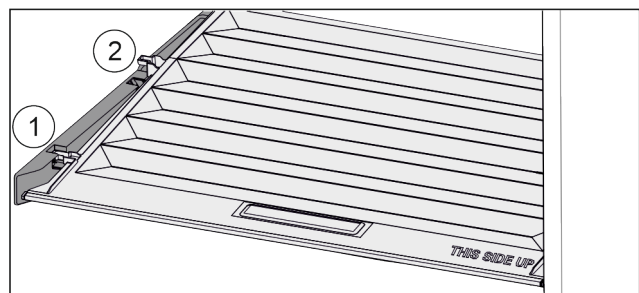

Fig. 24
- ▶ Pull the lid up at the front in the retaining parts to the opening Fig. 24 (1).
- ▶ Lift from the back and pull it up and out Fig. 24 (2).